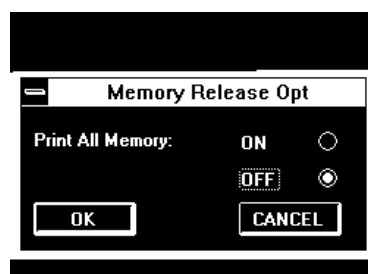

Figure 34
1. Select ON or OFF for the PRINT ALL MEMORY operation to download all readings in the meter's memory to the PC (**Figure 34**).